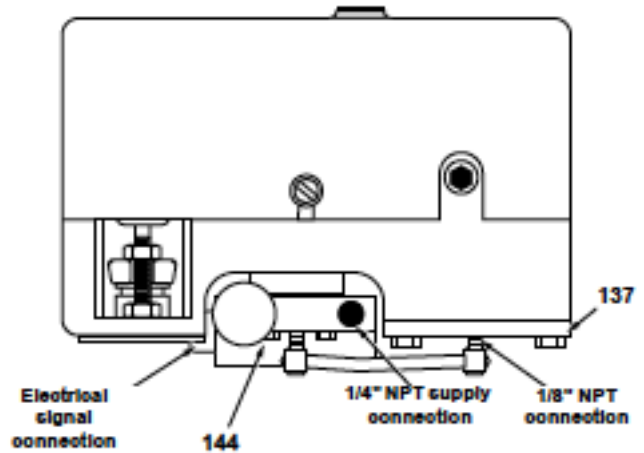

Figure 12 - Connections with 7700E positioner
- Control valve with 7700E positioner (electrical signal): connect the manifold block (144) air supply line and make the electrical connection for the I/P module (20) (figure 12).